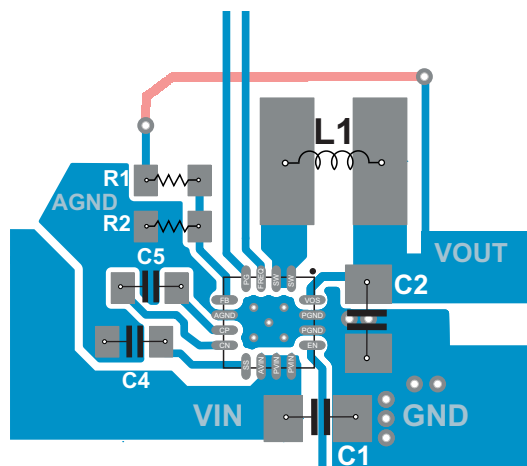

Figure 29. TPS6209x Layout
- Refer to Figure 29 and the evaluation module User Guide (SLVU670) for an example of component placement, routing and thermal design.